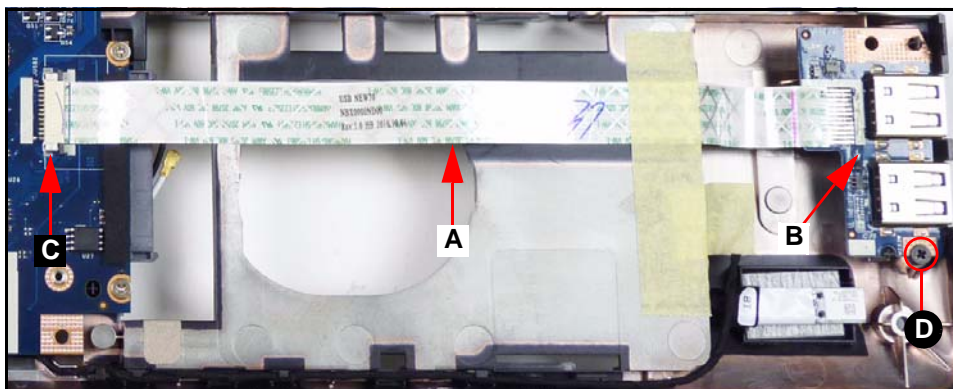

Figure 3-25. USB Module
2. Remove adhesive tape securing the USB board FFC. (Figure 3-25)
3. Disconnect USB board FFC (A) from module connector (B). (Figure 3-25)
4. Disconnect and remove USB board FFC (A) from mainboard connector (C). (Figure 3-25)
5. Remove screw (D) from lower cover. (Figure 3-25)
2. Install and secure screw (D) to lower cover. (Figure 3-25)
3. Connect USB board FFC (A) to module connector (B). (Figure 3-25)
4. Connect USB board FFC (A) to mainboard connector (C). (Figure 3-25)